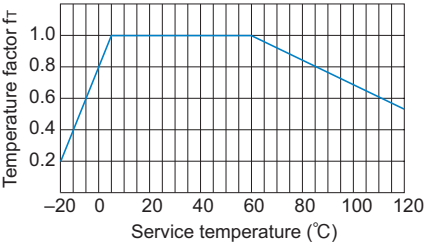

Fig.2 Temperature Factor
If the temperature of the lead screw nut exceeds the normal temperature range, the seizure resistance of the nut and the strength of the material will decrease. Therefore, it is necessary to multiply the dynamic permissible torque (T) and the dynamic permissible thrust (F) by the corresponding temperature factor indicated in Fig.2. Accordingly, when selecting a lead screw nut, the following equations need to be met in terms of its strength.
- f_T : Temperature factor (see Fig.2)
- F : Dynamic permissible thrust (N)
- P_F : Axial load (N)